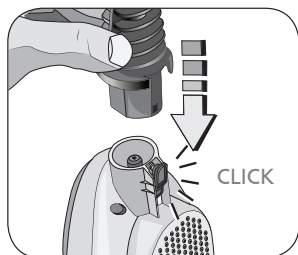
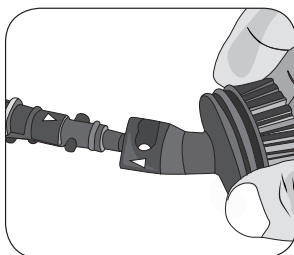

Fig. 13
Fig. 14
Insert the extension (3) onto the hand-held steamer connection. The correct installation occurs with a "click" (Fig 13). Insert one of the smaller accessories from the extension nozzle side (Fig 14).
To use the accessory for fabrics, it is necessary to remove the hand-held steamer (G) from the appliance body. Press the hand-held steamer release button (I). Remove the hand-held steamer. Insert the fabric accessory (9) cover by cloth for fabrics (11) onto the hand-held steamer connection. The correct installation occurs with a "click" (Fig 13).